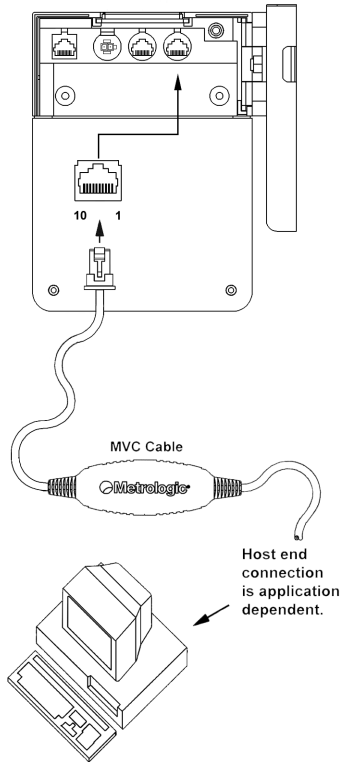

Figure 1: OCIA, Interface
3. Connect the MVC cable to the 10-pin OCIA interface jack. It is the 2nd round opening from the left side of the MS7220 (see figure 1).